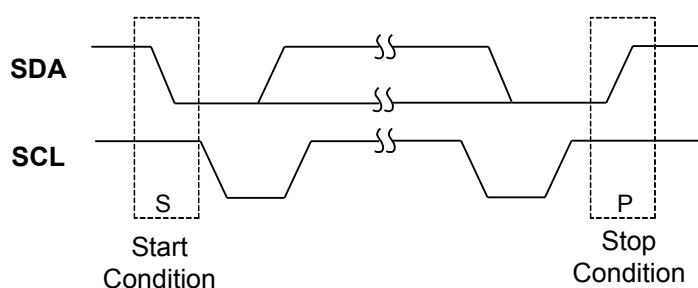

Figure 18. Start and Stop Conditions
- Start and stop condition: SDA high to low transition while SCL is high defines a Start condition. SDA low to high transition while SCL is high defines a Stop condition. (Refer. to Figure 18)